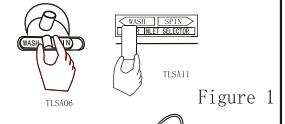

Figure 1
- (1) Set fill selection to "Wash side" .(Figure 1)
- (2) Adjust water level rod to a position as needed.